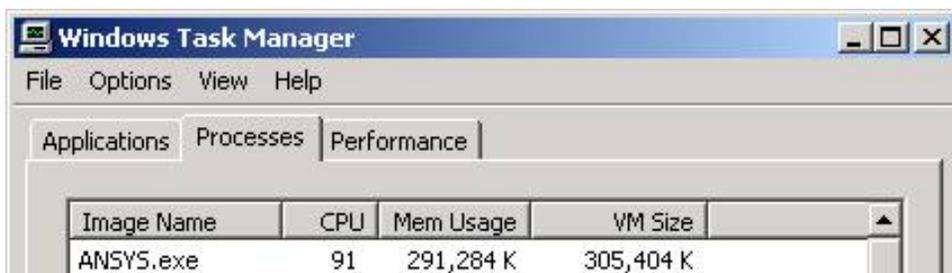

Figure 4. Resource usage shown during meshing/element formation.
- You will observe the following if you look at the Task Manager during solution, Figure 4 shows the Ansys.exe during meshing/element formation. The host machine has to do an element formation prior to the domain decomposition and results output after solution.